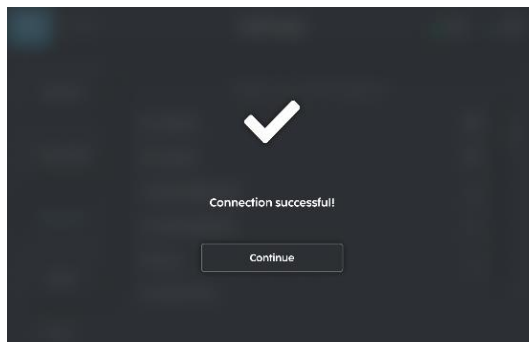

FIGURE 6-6
2. If the connection is successful (Fig 6-6), network change is successful.